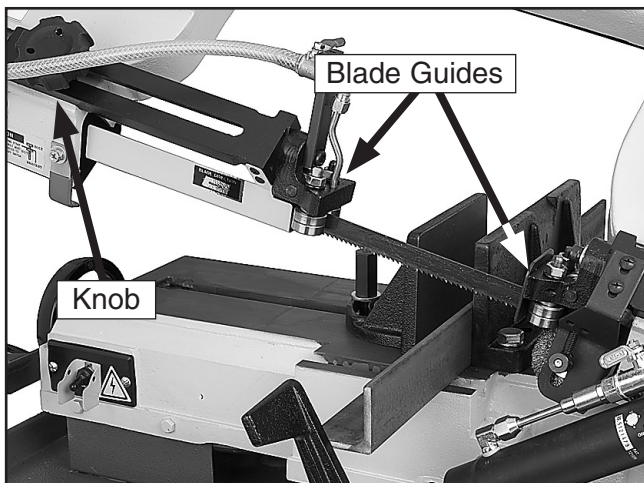

Figure 27. Blade guides.
1. Loosen the knob shown in **Figure 27** and slide the rear blade guide as close to the workpiece as possible, then tighten the knob.